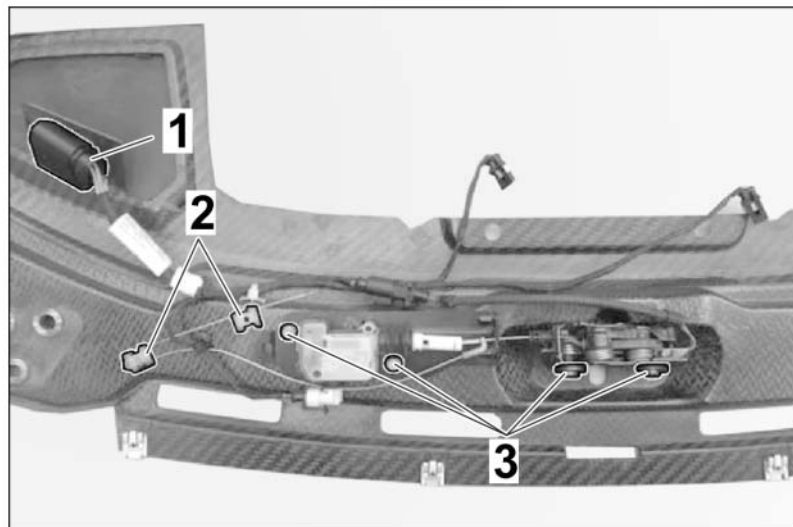

Figure 45
2. – Mount the lock unit and the cable harness on the new mounting bracket. Start by assembling the lock unit. Fasten it with the standard screws at the specified points \Rightarrow Figure 45 -3-. **Screw: Tightening torque 8 Nm (5.9 ftlb.).** The two marked retaining clips for the wire cable of the emergency release \Rightarrow Figure 45 -2- cannot be used. If the retaining pin of these clips is pressed inwards, they can no longer be used.
3. – Next, attach the 12-pin central plug of the mounting bracket. Use the standard retaining clip for this ⇒ *Figure 45 -1-*. The other fastening points then come about automatically.